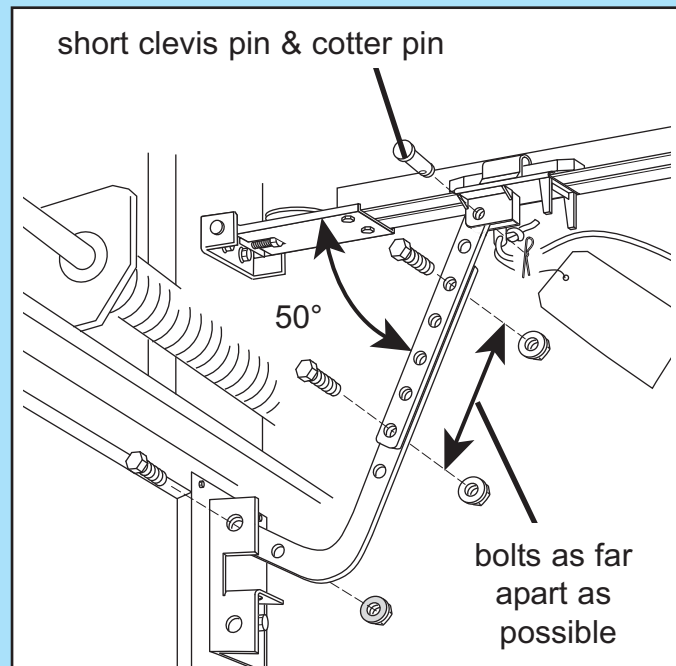

FIG. 2-9 Attaching door arms.
- Fasten short branch of curved door arm to door bracket using bolt and locking nut (Fig. 2-9).
- Fasten straight arm to carriage using clevis pin and cotter pin (Fig. 2-9).
- With the arms arranged in this position, fasten arms together using bolts and nuts spaced as far apart as possible (Fig. 2-9).